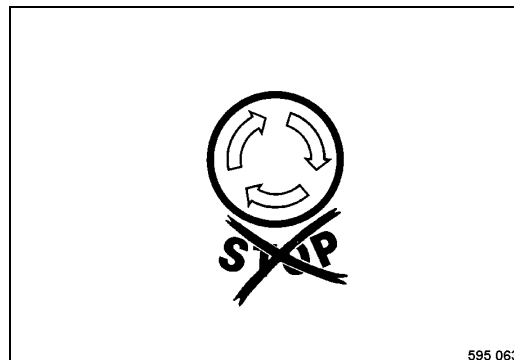

Fig. 56
- Check, whether the emergency stop switch (Fig. 56) is unlocked.